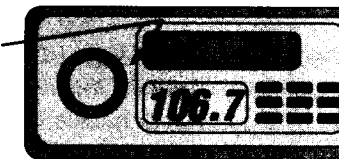

Figure 9 - Head Unit
2. Adjust the volume control on your head unit (C/D, Cassette, etc.) to approximately 3 o'clock or 3/4 volume setting. (See Figure 9)